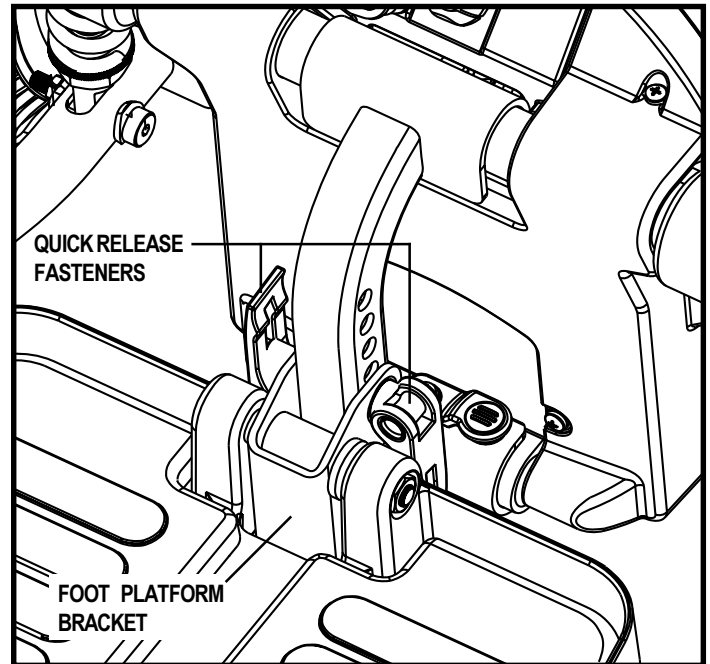
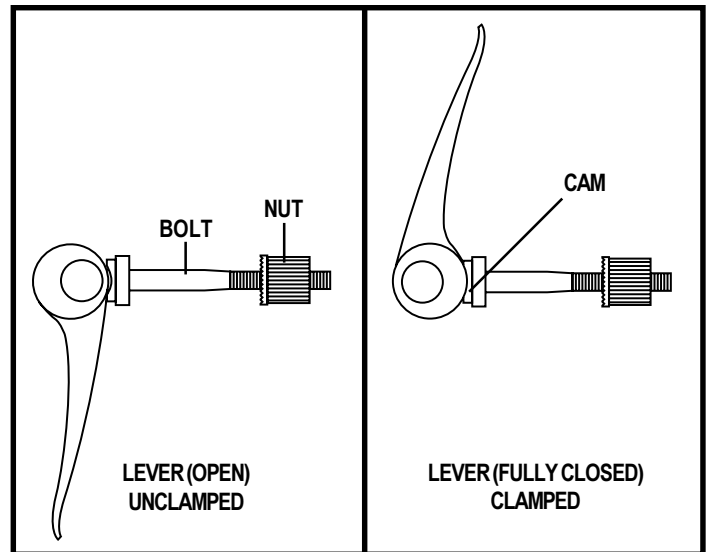

Figure 20. Foot Platform Adjustment
Figure 21. Quick Release Fasteners
1. Remove the quick release fasteners from the foot platform bracket. See figure 20.
The foot platform is attached to the power base with two quick release fasteners. See figure 20. Each quick release fastener consists of a bolt, a lever, and a nut. See figure 21. The lever has a cam on the end that allows it to clamp into place. The quick release fastener has two states: clamped and unclamped. When the lever is open, the quick release fastener is unclamped. When the lever is closed, the quick release fastener is clamped.